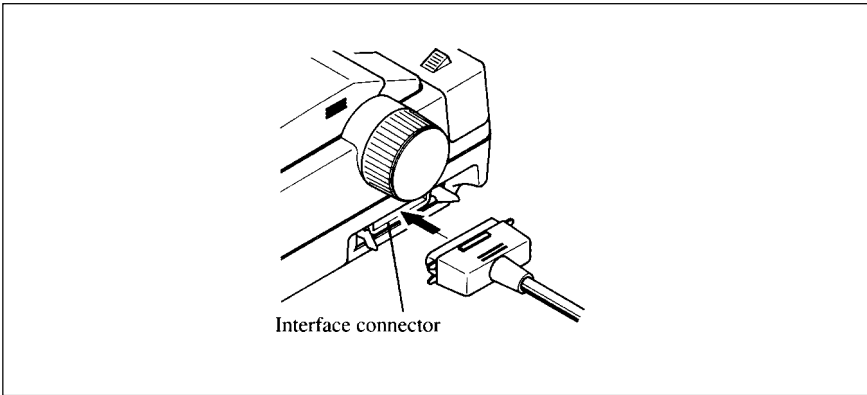

Figure 2-10. Connecting the interface cable.
2. Connect the interface cable to the printer as shown in Figure 2-10. Make sure that you press the plug into the interface connector.